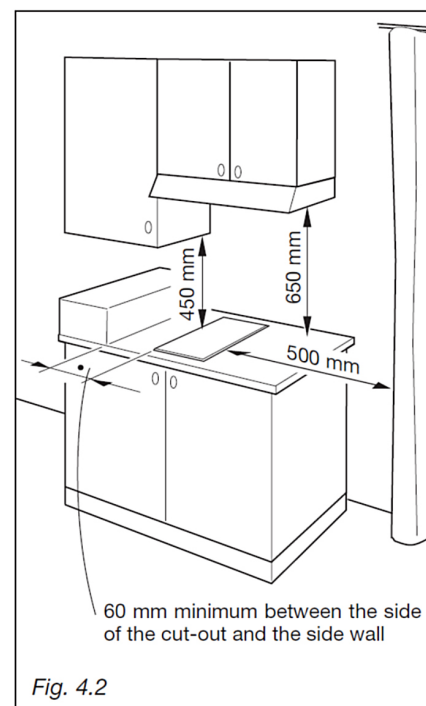

Fig. 4.2
- There must be a distance of at least 650 mm between the hob and any wall cupboard or extractor hood positioned immediately above (see fig. 4.2)